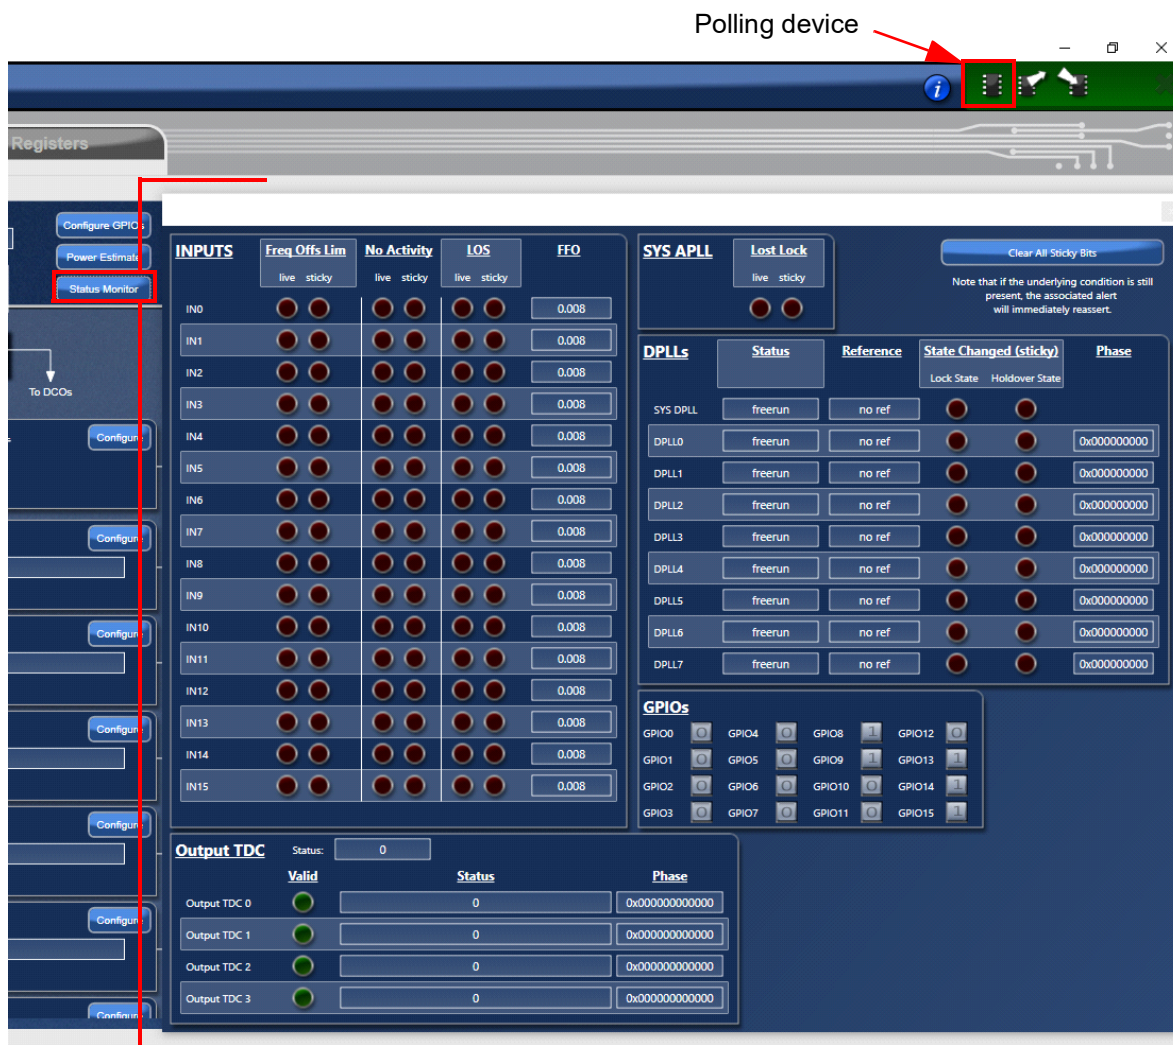

Figure 20. Show Monitors Window
- Status Monitor button only appears when GUI is connected to the device (see Figure 20)
- Device must be polled to show monitor status (see Figure 20); auto-polling is possible but is not recommended due to the slow speed of the GUI